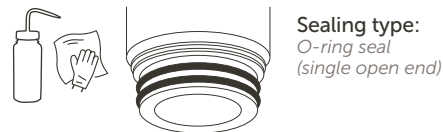

Figure 4.
5. Wet the O-rings with deionized (DI) water or IPA to ease insertion of the cartridge into the housing cartridge slot, Figure 4.